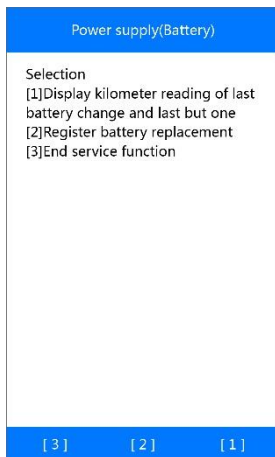

Figure 5-54 *Sample Register Battery Replacement screen*
- 1) From *Figure 5-54*, press **[2]** to continue.